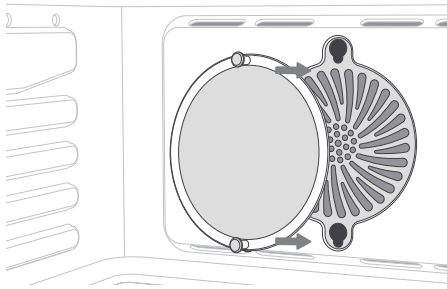

Figure 1.1
4. Place the splatter guard in the slots inside the oven. Make sure the knobs are fully inserted and slide down until the splatter guard locks in place. **[Figure 1.1]**